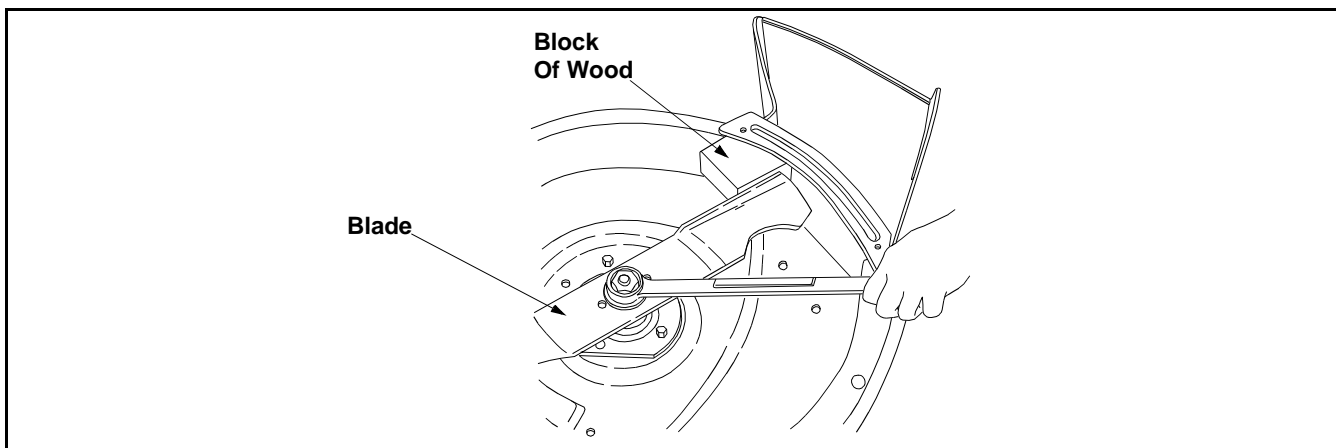

Figure 29
1. Secure the cutting blade by putting a piece of wood between the blade and the housing. (See Figure 29)